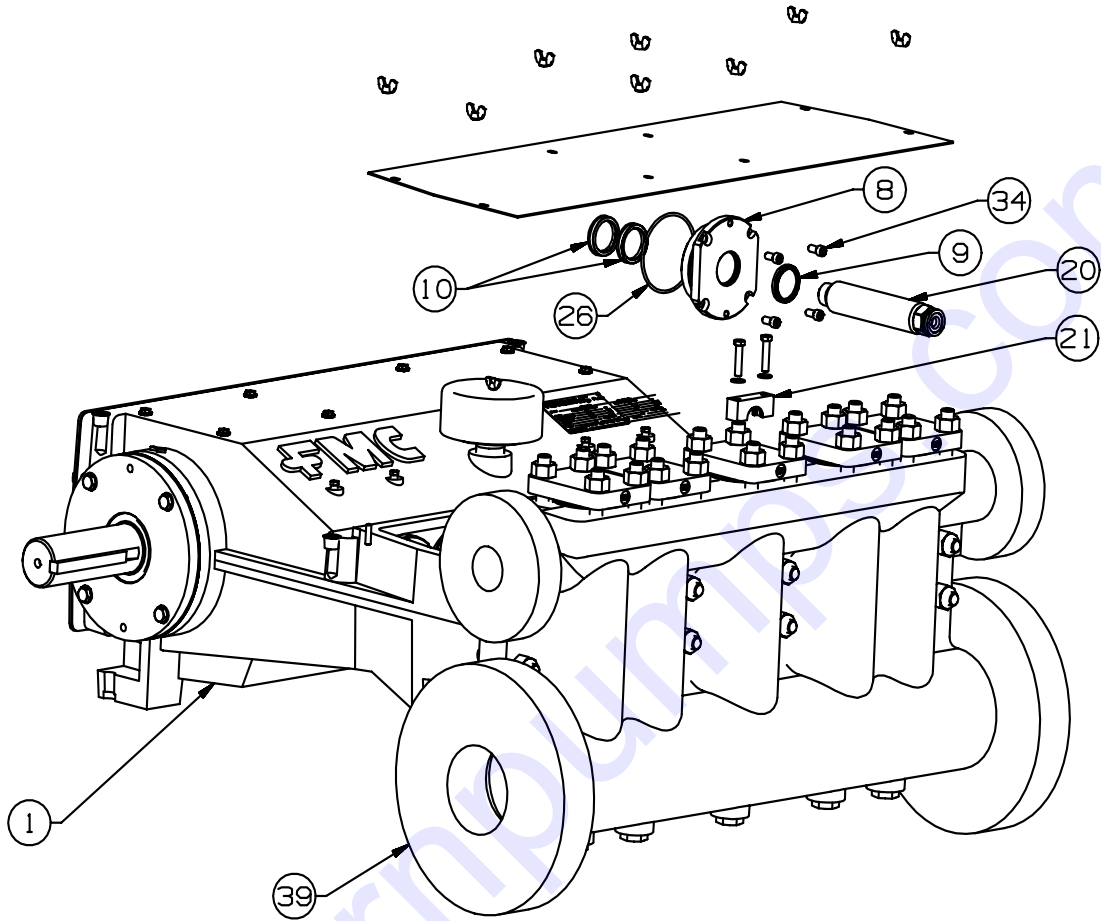

Figure 7: Replacing Plunger Rod Seals
1. The plunger rod oil seals retain oil in the power frame (1) and prevent dirt, water, or other contaminants from entering the power frame (1) by way of the plunger rods. The fluid end need not be disturbed to perform this procedure.
3. Unbolt the plunger clamps (21) and remove them from the plunger (45) and extension rod (20). See Figure 7.
4. Rotate the crankshaft (2) by hand until one of the plunger (45) is moved fully forward, toward the fluid cylinder (39), and the extension rod (20) is fully retracted.
5. Slide the deflector shield (24) off the end of the extension rod (20).
6. Unbolt the four cap screws (34) holding the plunger rod seal housing (8) to the power frame (1). Pull the seal housing (8) over the end of the plunger rod and out of the cradle. If the seal housing (8) is difficult to remove, threaded holes in the housing are provided to jack the housing away from the power frame (1) using the bolts holding the seal housing (8) in place. Repeat these three steps for the other seal housings (8). See Figure 7.
7. Remove the cup seals (10), wiper ring (9) and the o-ring (26) from the seal housing (8). Note the orientation of each seal prior to removing it. See Figure 7.
8. Inspect the extension rod (20) at this time. If it is scored or damaged in any way it must be removed. To remove the extension rod (20) unscrew it from the crosshead (7). A new extension rod (20) is screwed into the crosshead (7) and torqued per the Fastener Torque Requirements section of this manual.
9. Install a new o-ring (26) and new seals (10) in the seal housing (8) in the same orientation that they were originally.
10. Replace the seal housing (8) in the power frame cradle over the plunger rod and into position in the counterbore. Tap into position using a rubber mallet. The four cap screws (34) can be used to evenly draw the seal housing (8) into place. Take care to avoid folding the seal lips back when they are pushed over the plunger rod when the seal housing (8) is installed in the power frame (1). A small amount of motor oil on the plunger rod and the seal bore in the power frame (1) will aid this process and provide lubrication to the seals (10) during start-up.